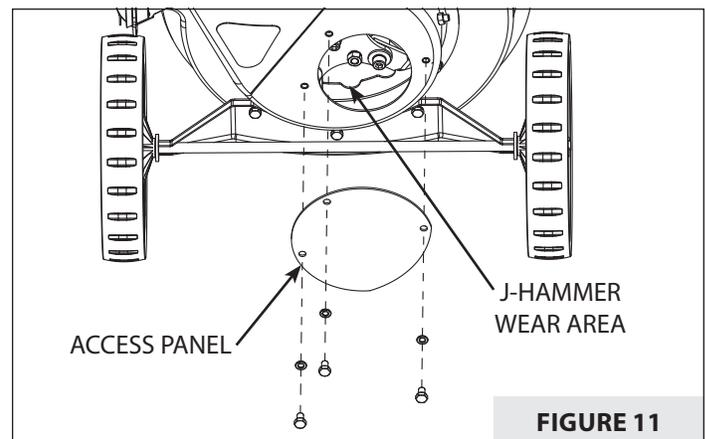

FIGURE 11
2. Remove the small circular access panel (B) from the back of the shredder housing. **SEE FIGURE 11**.
3. Inspect the cutting edges of the triangular hammers (A) and J-hammers (A). **SEE FIGURES 11 AND 12**.